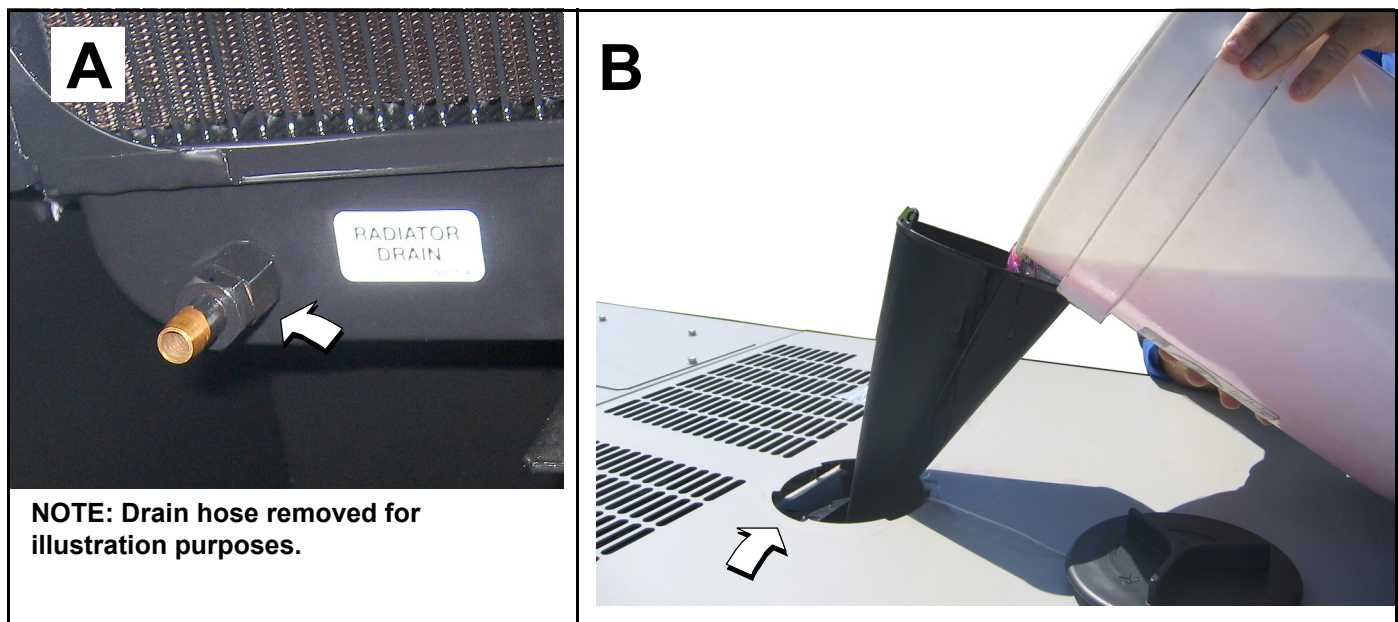

Figure 5-19. Drain/Fill Coolant System
4. Locate drain cock at bottom left side of radiator. Rotate hex fitting to open drain cock. See A of Figure 5-19.
12. Rotate and remove plastic cover at top of enclosure and insert funnel into filler neck. See B of Figure 5-19.